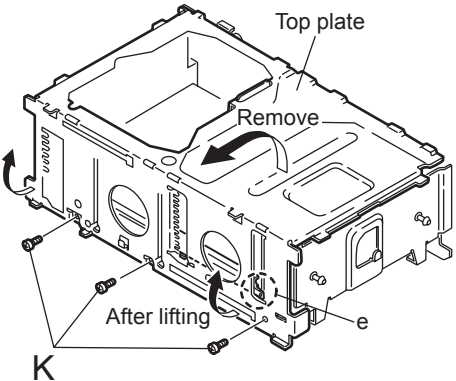

Fig.7
- (3) Turn the damper spring bracket toward the top at a right angle as shown in Fig. 7, then push down the lower side of the damper spring bracket to lift it off.
- (4) Remove the three fixing screws **D** and **E** on the DIN jack board assembly.
- (5) Lift the changer unit upward.
- (6) Remove the damper springs from the mechanism chassis if required. To reassemble, refer to the diagram below.